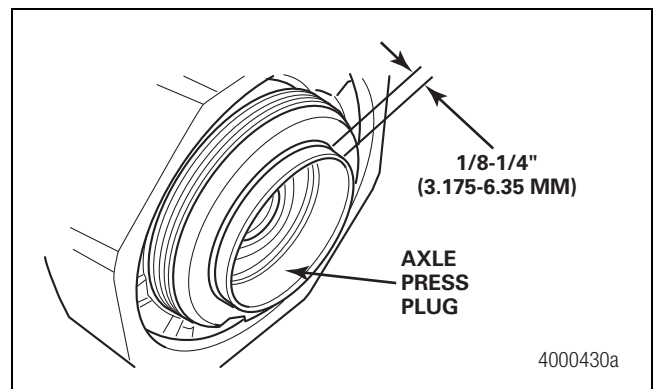

Figure 2.23
17. Check that the axle press plug protrudes from 1/8-1/4-inch (3.175-6.35 mm) from the end of the spindle. Figure 2.23.